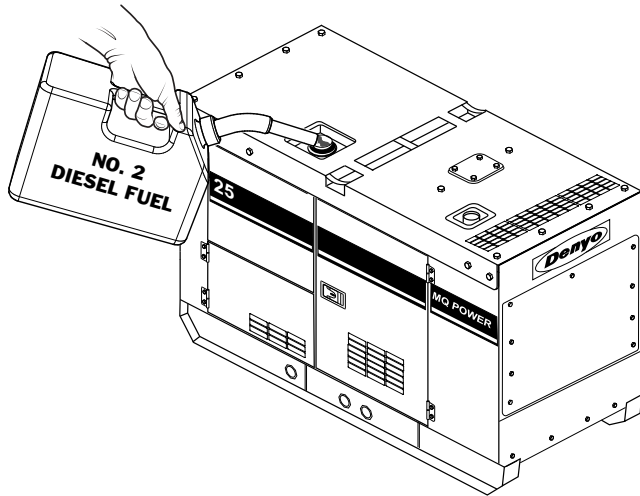

Figure 18. Fueling The Generator
1. The fuel filler port is located on top of the generator. Remove the fuel cap and fill the tank with with No. 2 diesel fuel (Figure 18).